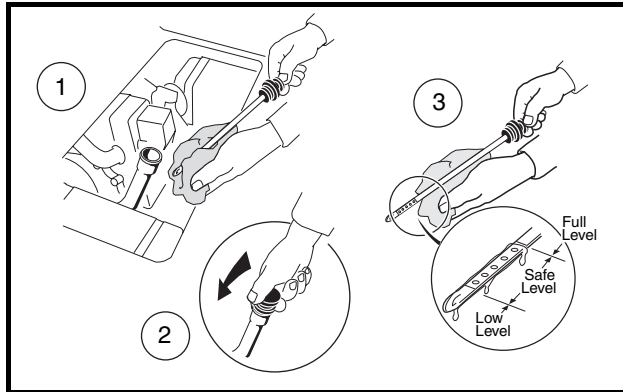

Figure 10-9 Engine Oil Level Check
1. Remove the oil level dipstick from the oil filler tube and wipe oil from dipstick (**Figure 10-9, Page 10-11**). See following **CAUTION**.